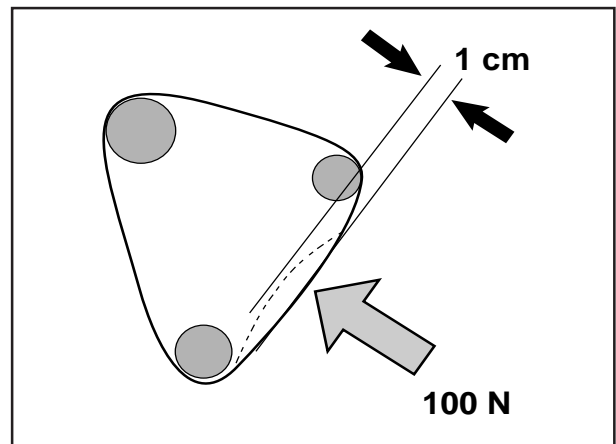

Figure 20
- Apply a force of approximately 100 N on the V-belt in the middle between the pulleys (figure 20). The V-belt should show a deflection of approximately 1 cm.